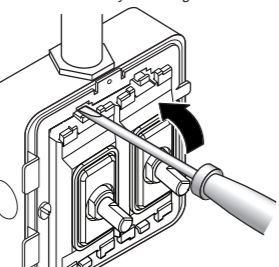

Figure 5 - Module removal procedure
- *21. It is possible to remove a module by placing the blade of a screwdriver in the top clip, where it engages with the frame and carefully levering it out. See Fig. 5.